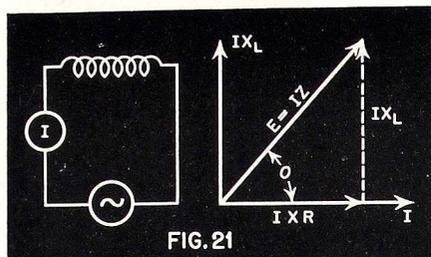

FIG. 21
We are now in a position to analyze the vector diagram of a coil, with due consideration to its d-c. resistance. It should be pointed out, at this stage, that no coil is devoid of resistance, and that assumptions made otherwise, are for purposes of explanation only. Referring to *Fig. 21*, we note that the inductive voltage drop, $X_L I$ is laid off 90 degrees ahead of the current. On the other hand, the voltage drop due to the d-c resistance of the coil is directly a result of the current flowing through the coil, and is in phase with this current. It is, therefore, laid off along the current line.
Referring back again to Fig. 21, we note that the resultant voltage, E , by equation (2) is,
It will be noticed that due to the d-c resistance in the coil the current lags the applied voltage by less than 90 degrees. The impedance, Z , can be obtained by measuring the current and voltage in the circuit, and dividing the former into the latter, or by applying formula (6), knowing X_L and R . Formula (6) is one of the most important relationships in a-c circuits, and its derivation indicates only one of the many applications of vectors. The angle θ in Fig. 21 is referred to as the phase angle.